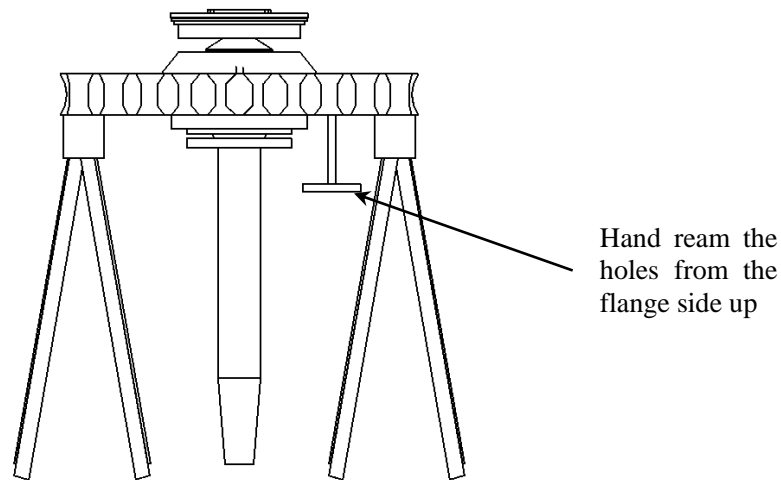

Figure 48 Ring gear support
9. With the assembly resting on the stands, remove the output shaft sling, and set the sheave side of the output shaft pointing down. See figure 48.
See figure 48.